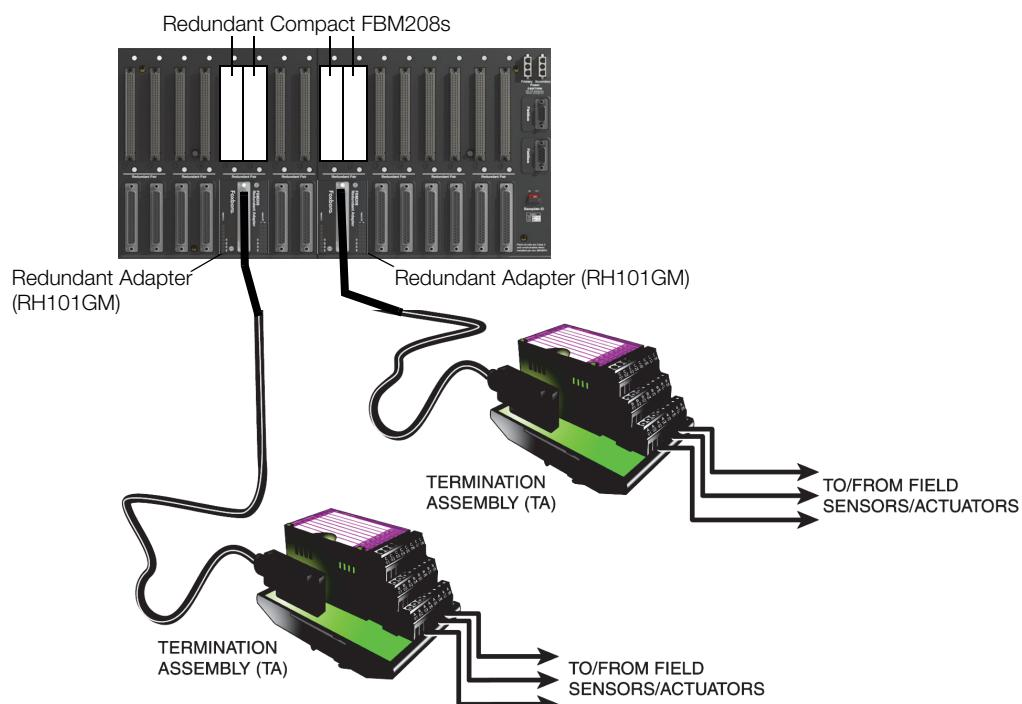

Figure 1. Redundant Compact FBM208 I/O Configuration (2 Pairs Shown)
A redundant pair of the Compact FBM208s combine to provide redundancy at the Fieldbus Module (FBM) level, with field I/O wired to one common termination assembly (see Figure 1). Each module independently attempts to hold the output(s) at its specified output value(s), and each independently reports its observed value of the inputs.
Redundant modules must be located in adjacent positions on the baseplate, with the first module located in an odd-numbered position (for example, the positions labelled "3" and "4"). To achieve redundancy, a redundant adapter module is placed on the two adjacent baseplate termination cable connectors to provide termination for a single cable (see Figure 1). A single termination cable connects from the redundant adapter to the associated termination assembly (TA).